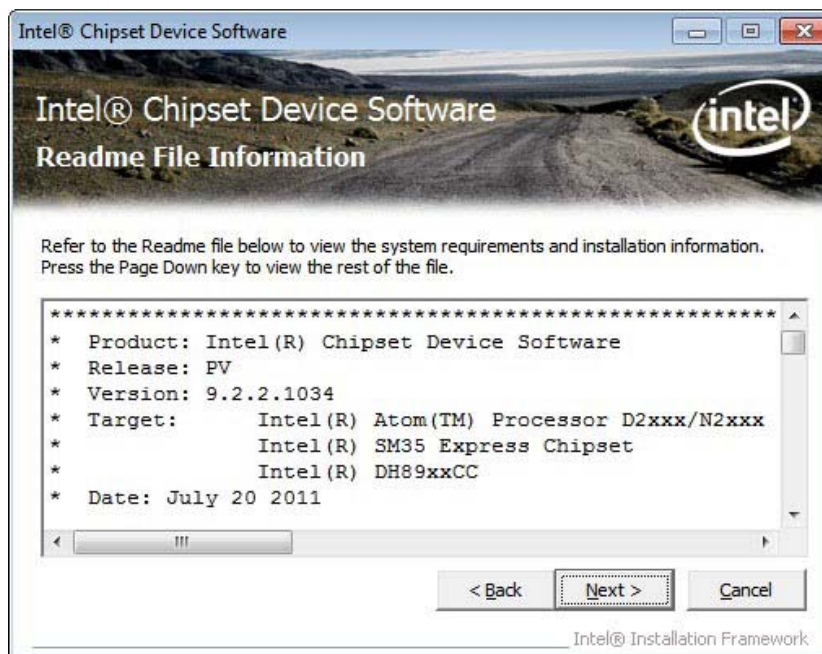

Figure 6-6: Chipset Driver Read Me File
Step 12: The Read Me file in **Figure 6-6** appears.